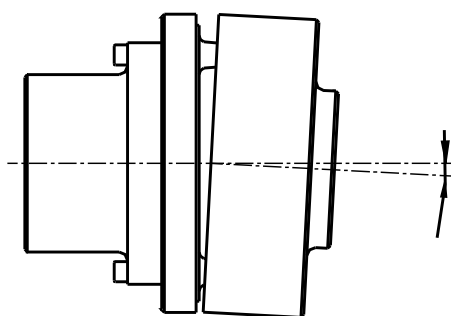

Figure 5: Angular Misalignment
- a) Parallel i.e. no angular displacement is present (See Figure 5: Angular Misalignment)